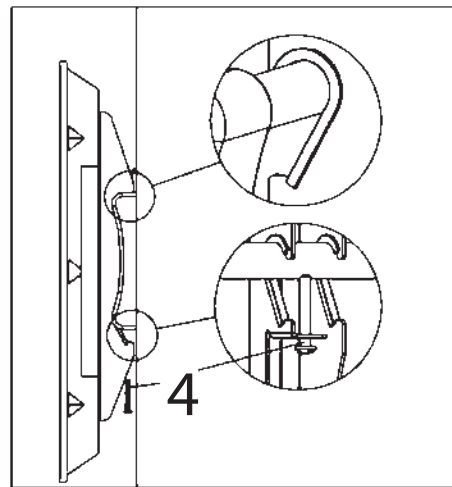

Fig. 4b
3. Rotate the display to let the brackets hook over the bottom bar of the mount. Then install a safety bolt (4) into the lower end of each bracket to lock the television in place (Fig 4b).